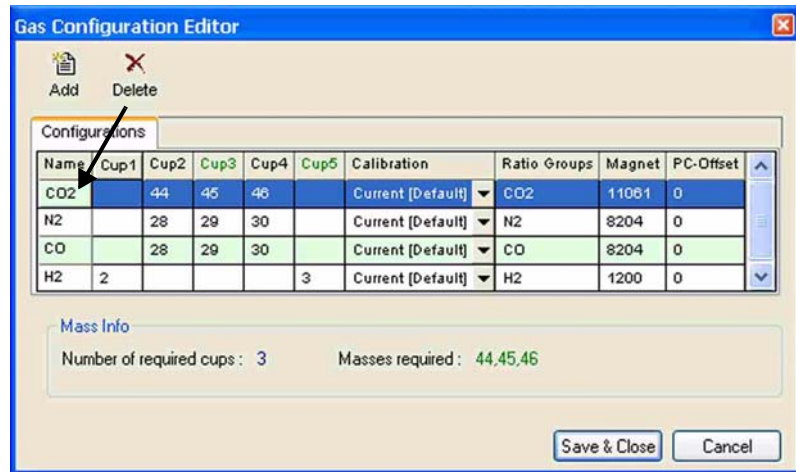

Figure 3-4. Gas Configuration Editor
5. In the Gas Configuration Editor (Figure 3-4):